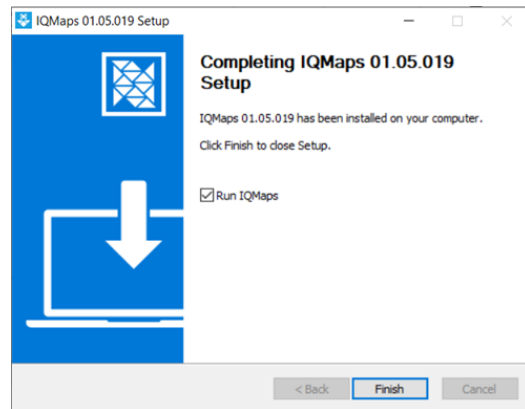

Fig. 7 IQMaps install step 3
4. Press **Finish** (Fig. 7), for the icon  to be visualized on the PC screen desktop,